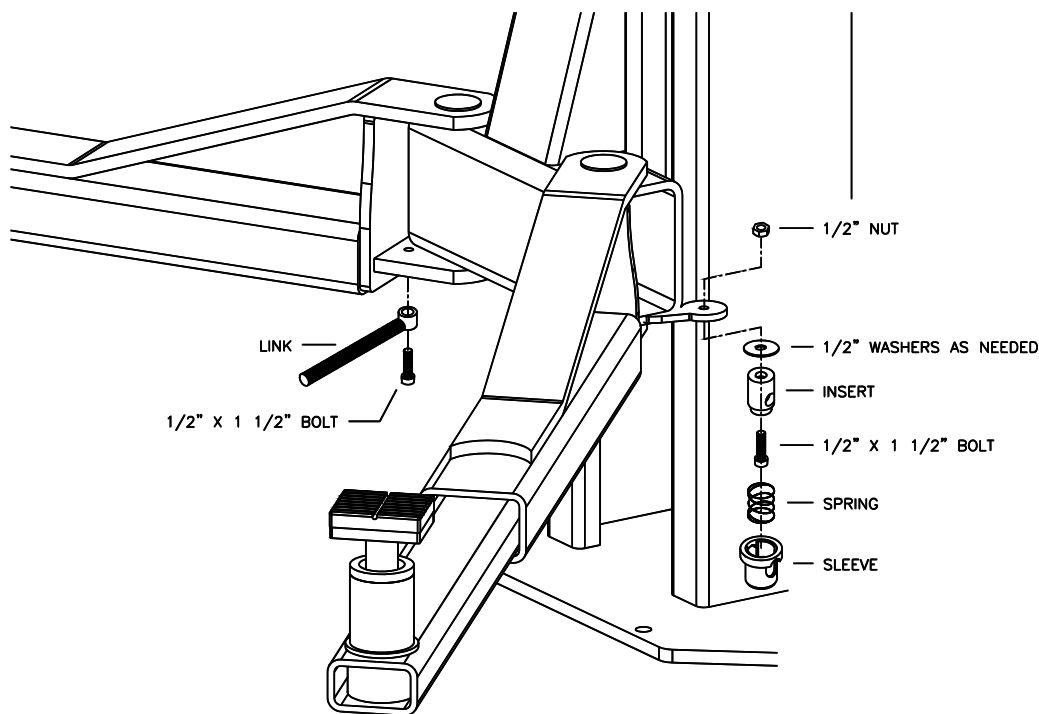

Figure 11
21. Lubricate the arm pin or carriage arm pin hole with “anti-seize” lubricant and install the arms (Fig. 11). Install spacer washers above the restraint lock mechanism for proper alignment of the link rod. Insure that the arm restraint gears engage and disengage properly. Arm restraints should disengage when lift is fully lowered. If any binding occurs, insure that the large gear mounted to the arm has been factory installed tight against the arm pin.